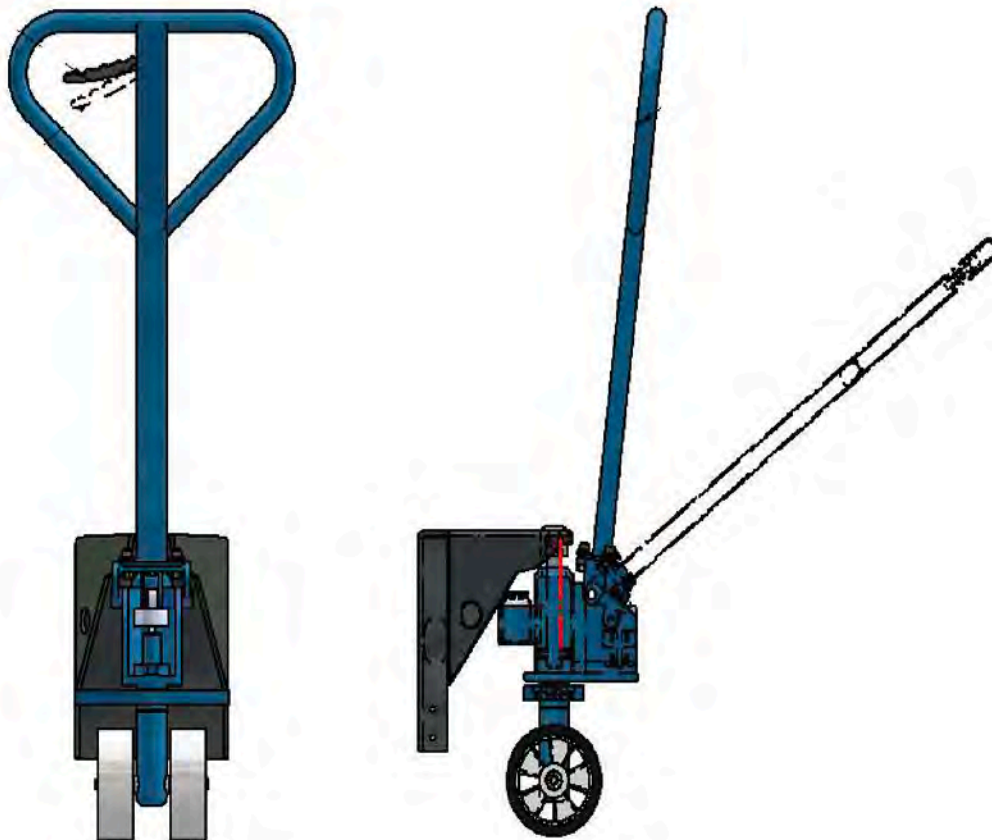

Figure 4
- Lifting: Move the Jack handle to position 2 (figure 4) and press the toggle rod repeatedly, allowing it to move back and forth between position 3 and position 4. Continue until the lift reaches the desired height, then stop the operation.
- Returning to initial position: Move the lift handle to position 1 (figure 4), and the lift will automatically return to the initial height.